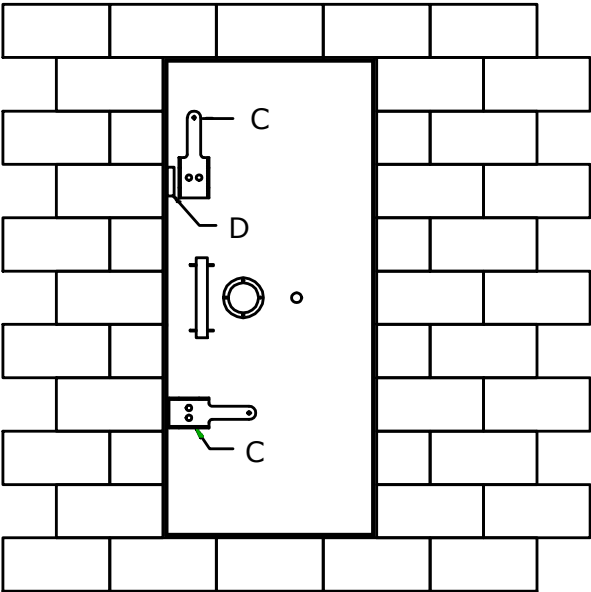

Figure 10B
The two cam lock levers (C) draw the door tight to the gas seal by means of tightening against the cam plate (D). In the open position the lever ends point up and down or away from each other. In the closed or locked position the lever ends are parallel pointing across the door to the hinged side. Figure 10B shows the top lever in the open or unlatched position, and the bottom lever in the closed or latched position.